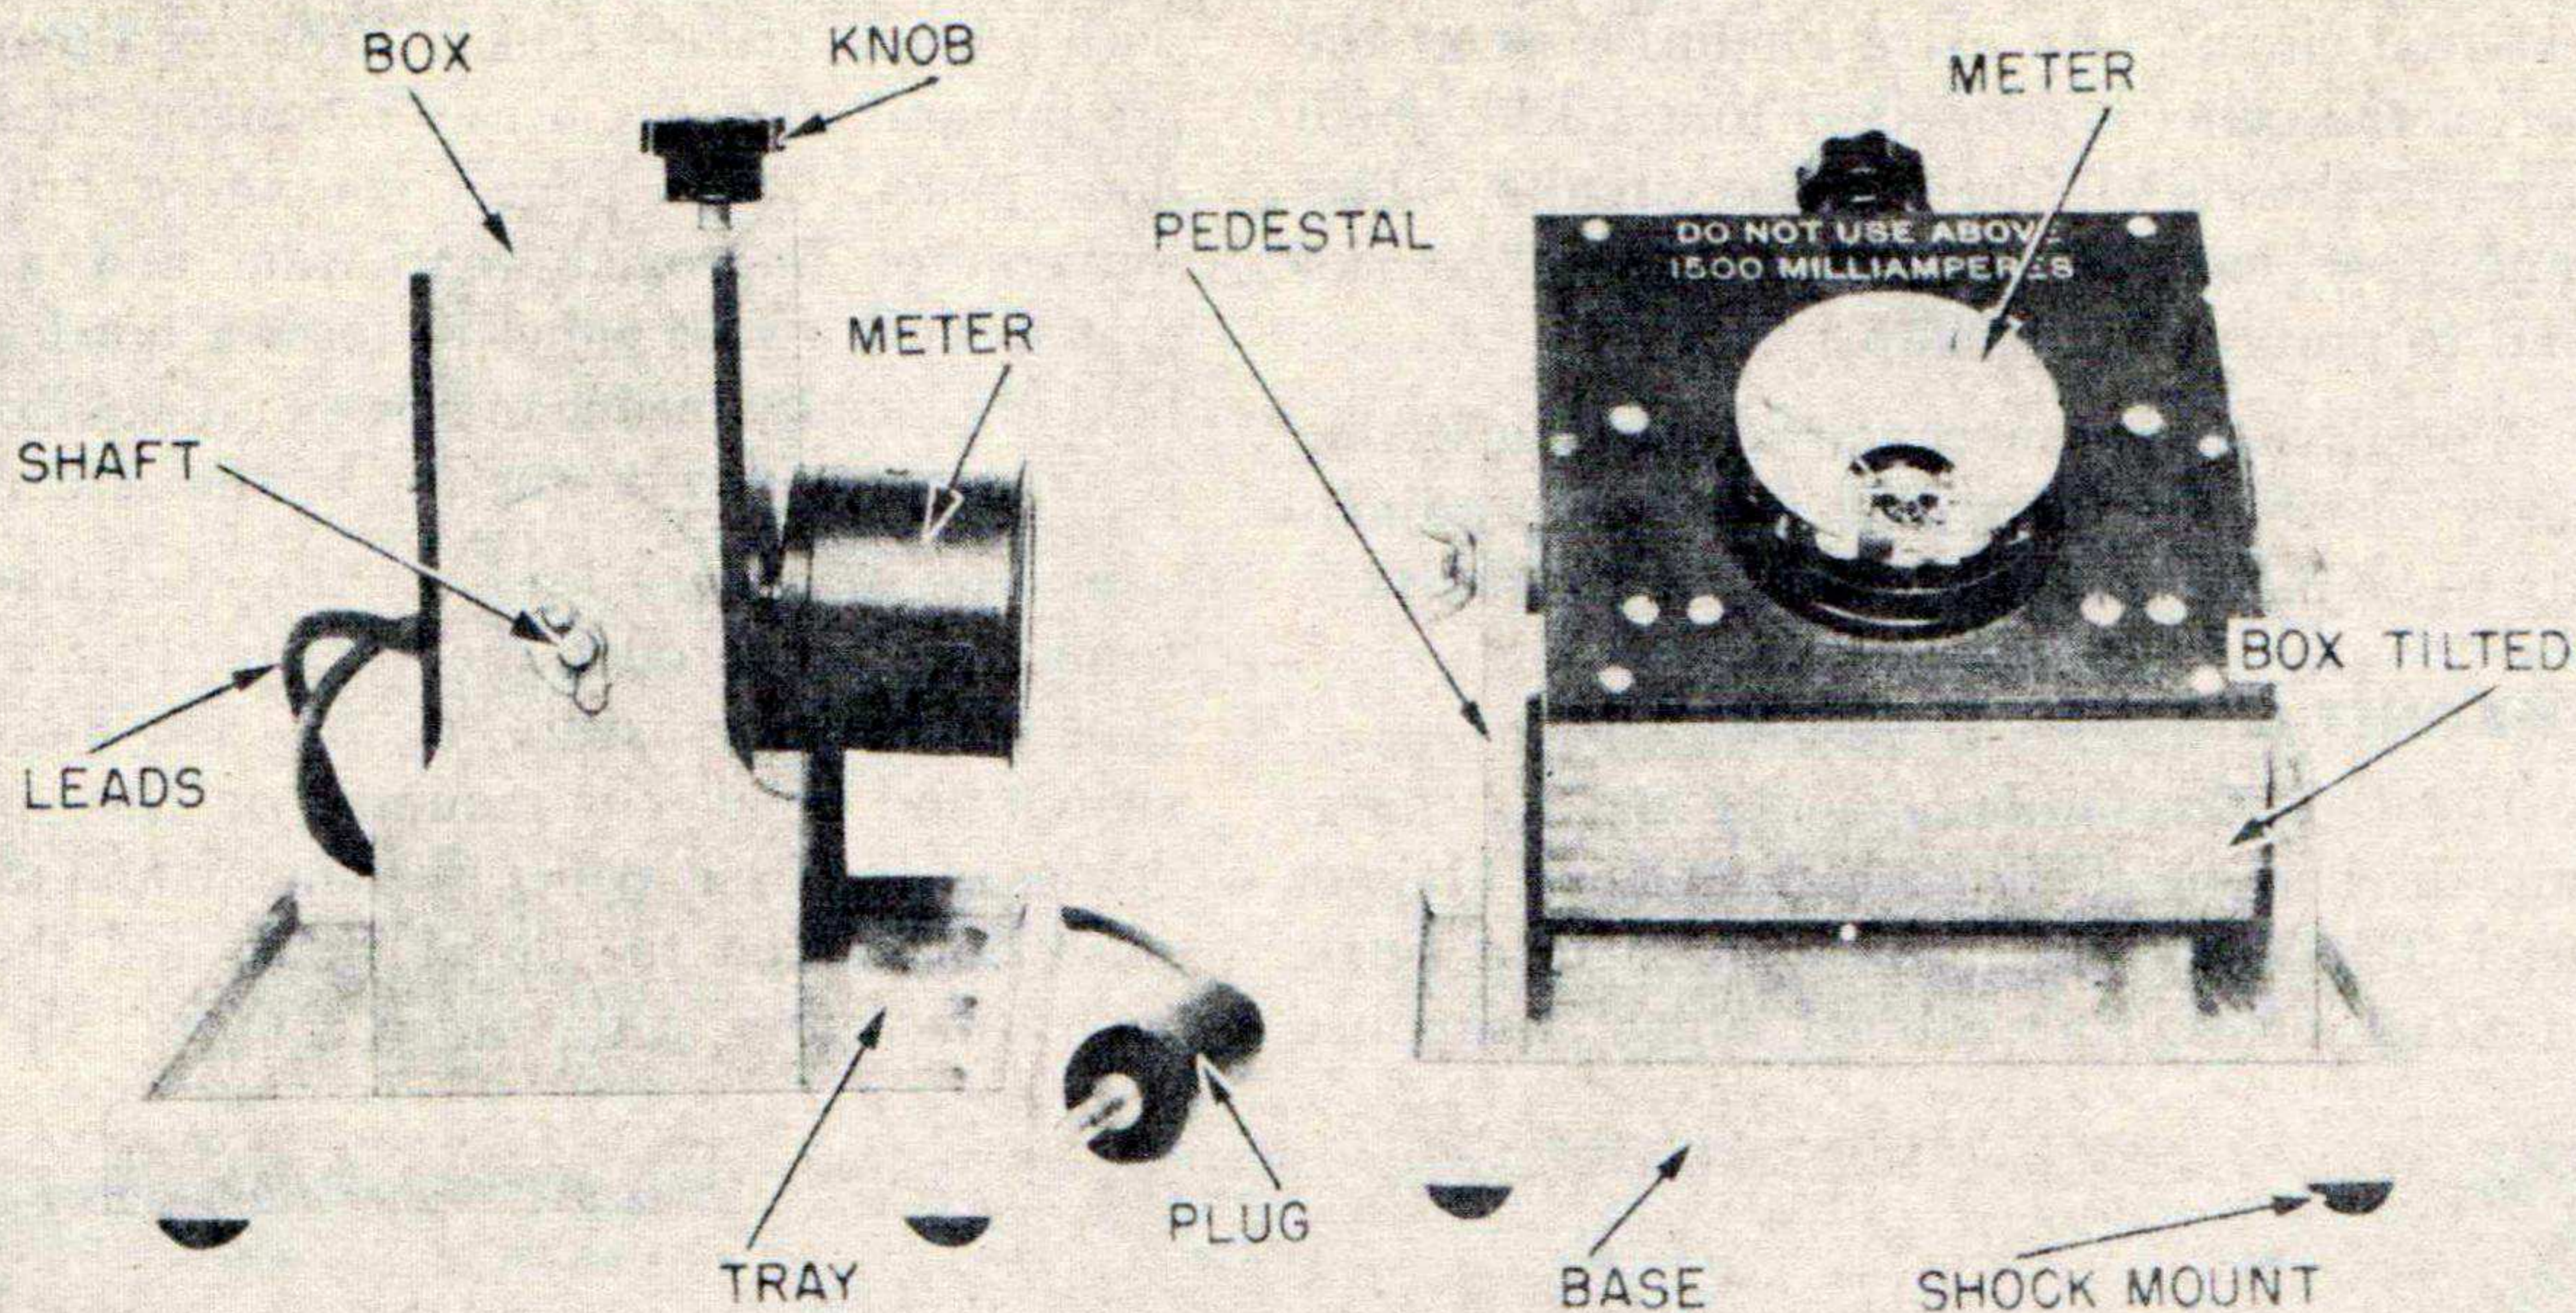

Figure 7. Mounting MT-135/GSM-1 or MT-175/GSM-1, side and tilted views.
a. Both mounting units are similar in construction. Each consists of a wooden box mounted on a metal shaft to a wooden pedestal (fig. 7). The box turns on the shaft so that the meter under test can be tilted to the same position it occupies during the operation of the equipment of which it is a component.
(1) Mounting MT-135/GSM-1 uses a Plug PL-55 which fits the range jacks of the voltage supply unit.
(2) Mounting MT-175/GSM-1 uses a Plug PL-68 which fits the range jacks on the current supply unit.